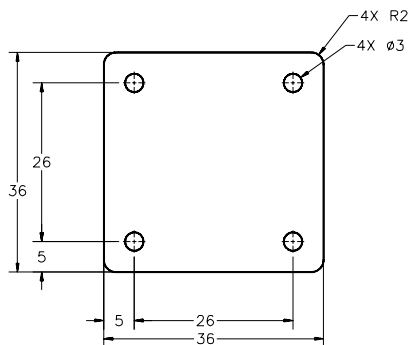
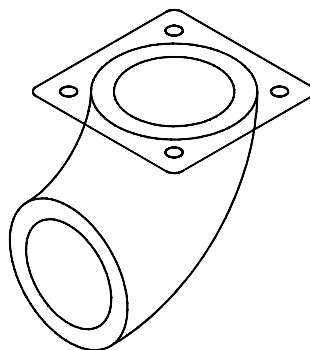

Figure 26-119 Sketch for the area to press/pull
Figure 26-120 Location of the sketch
7. Choose **Top** from the ViewCube and draw the sketch with the dimensions shown in Figure 26-119. The model, after drawing the sketch and turning off the dimension layer, is shown in Figure 26-120.